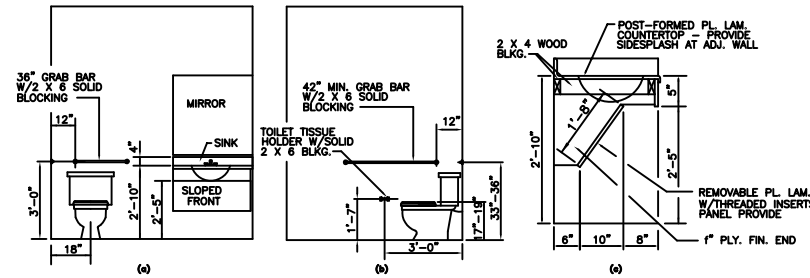

FIG. 31 LAVATORY & WATER CLOSET CLEARANCES
- 4.16.3 HEIGHT. THE HEIGHT OF WATER CLOSETS SHALL BE 17" TO 19" (430mm TO 485mm), MEASURED TO THE TOP OF THE TOILET SEAT. SEATS SHALL NOT BE SPRUNG TO RETURN TO A LIFTED POSITION (SEE FIG. 31).
- 4.16.4 GRAB BARS. GRAB BARS FOR WATER CLOSETS NOT LOCATED IN STALL SHALL COMPLY WITH 4.26 AND FIG. 31. THE GRAB BAR BEHIND THE WATER CLOSET SHALL BE 36" (915mm) MINIMUM.
- 4.16.6 DISPENSERS. TOILET PAPER DISPENSERS SHALL BE INSTALLED WITHIN REACH, AS SHOWN IN FIG. 31. DISPENSERS THAT CONTROL, DELIVER, OR THAT DO NOT PERMIT CONTINUOUS PAPER FLOW, SHALL NOT BE USED.
- 4.17.6 GRAB BARS. GRAB BARS MAY BE MOUNTED WITH ANY DESIRED METHOD AS LONG AS THEY HAVE A GRIPPING SURFACE AT THE LOCATIONS SHOWN IN FIG. 31 AND DO NOT OBSTRUCT THE REQUIRED CLEAR FLOOR AREA. GRAB BARS SHALL COMPLY WITH 4.26.
- 4.19.2 HEIGHT & CLEARANCES. LAVATORIES SHALL BE MOUNTED WITH THE RIM OR COUNTER SURFACE NO HIGHER THAN 34" (865mm) ABOVE THE FINISH FLOOR. PROVIDE A CLEARANCE OF AT LEAST 28" (735mm) ABOVE THE FINISH FLOOR TO THE BOTTOM OF THE APRON (SEE FIG. 31).
- 4.19.6 MIRRORS. MIRRORS SHALL BE MOUNTED WITH THE BOTTOM EDGE OF THE REFLECTING SURFACE NO HIGHER THAN 40" (1015mm) ABOVE THE FINISH FLOOR (SEE FIG. 31).
- 4.23.2 HEIGHT. SINKS SHALL BE MOUNTED WITH THE COUNTER OR RIM NO HIGHER THAN 34" (865mm) FROM THE FINISHED FLOOR (SEE FIG. 31).